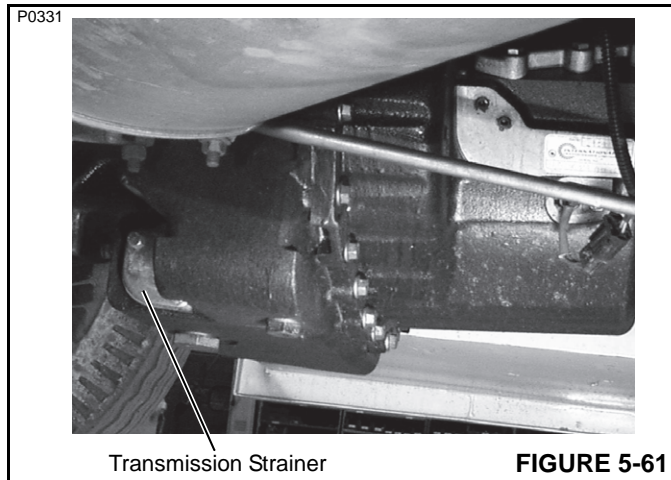

FIGURE 5-61
- Place suitable container under the strainer (Figure 5-61). Remove the strainer and gasket and drain the oil into the container. Discard the gasket.